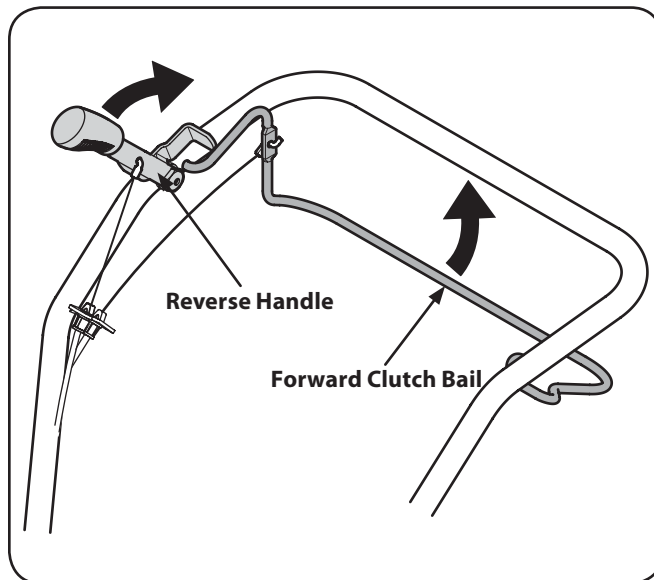

Figure 5-2
2. When tilling, relax and let the wheels pull the machine while the tines dig. Walk behind and a little to one side of the tiller. Use one hand, yet keep a light — but secure — grip on the handlebar (while keeping your arm loose). See Fig. 5-2. Let the tiller move at its own pace and do not push down on the handlebars to try and force the tines to dig deeper — this takes weight off the wheels and reduces traction.